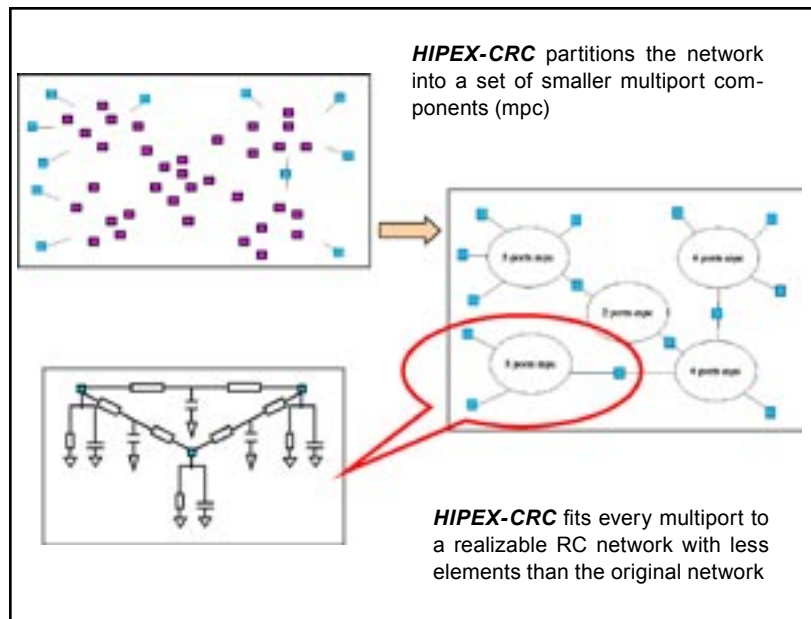

Figure 1.
- Once the preprocessing is done, *HIPEX-CRC* relies on a powerful **Scattering-Parameter-Based Macromodeling** [1] reduction technique. The advanced node merging rules within *HIPEX-CRC* lead to the partitioning of the original network into a set of several N-port component, each of which is then modeled by a reduced RC circuit characterized by the same set of S-Parameters (Figure 1)